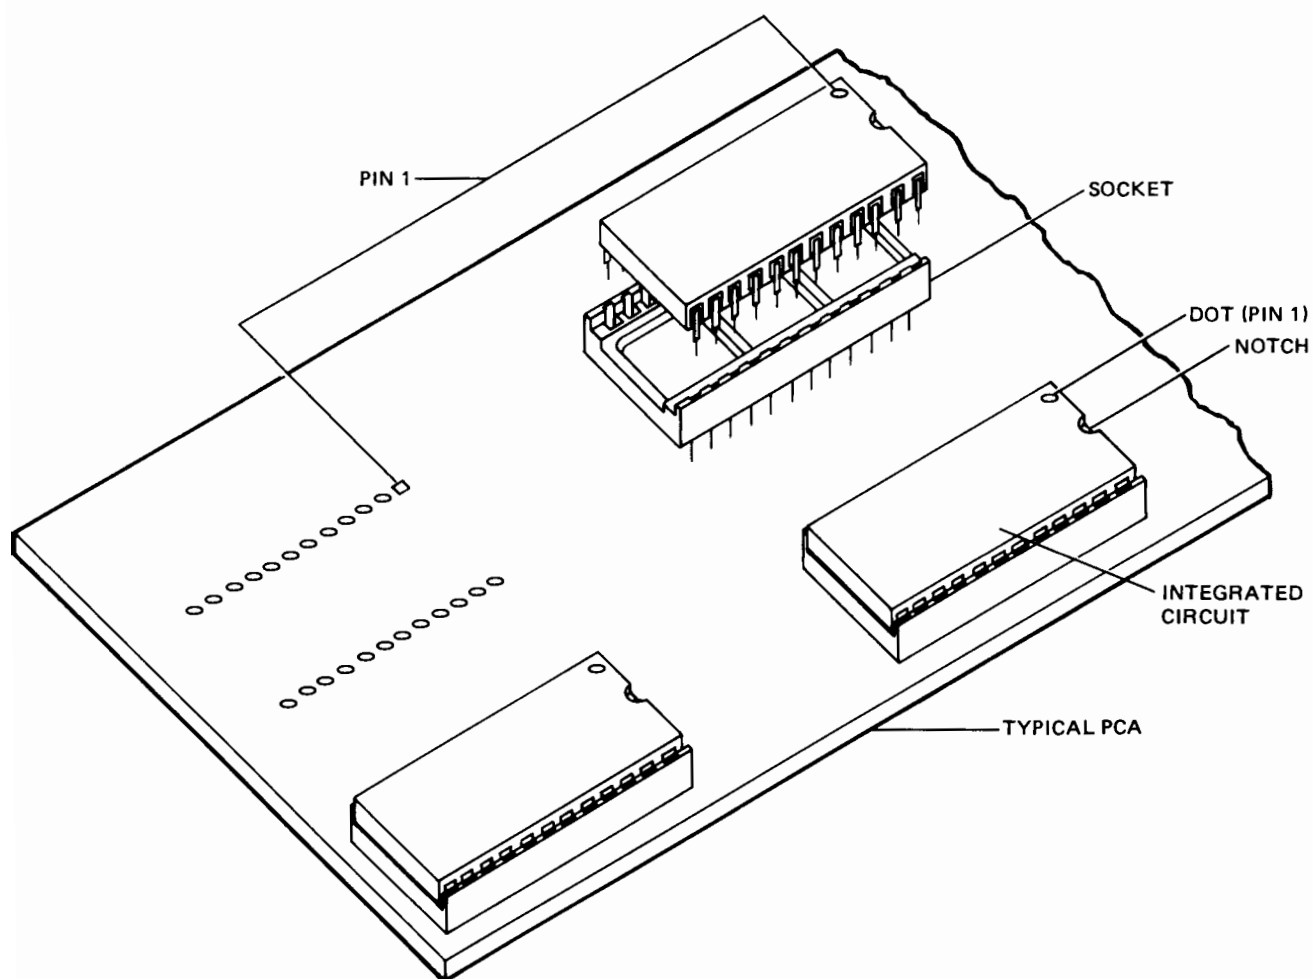

Figure 7-13. Installing an IC
**REMOVAL.** If a defective integrated circuit (IC), such as a Read-Only-Memory (ROM) or Random-Access-Memory (RAM), is to be replaced, set terminal power to the off position, disconnect the power cord, remove defective PCA, and proceed as follows:
**REPLACEMENT.** When replacing a defective IC, be aware that each IC must be oriented and aligned in its socket, i.e., pin 1 of the IC matches pin 1 of the PCA. All ICs on a PCA are usually installed in the same direction, i.e., the notched ends of the ICs are facing in one direction for correct orientation. Pin 1 is marked on the PCA by a square hole, and pin 1 on the IC is marked by a dot or notch. These markings help to ensure that both the IC socket and IC are installed correctly (figure 7-13). Install new IC as follows:
1. If replacement PCA requires ROMs, remove the just removed PCA. Reinstall these ROMs in their respective IC sockets. Refer to "INTEGRATED CIRCUIT" and see figure 7-13.